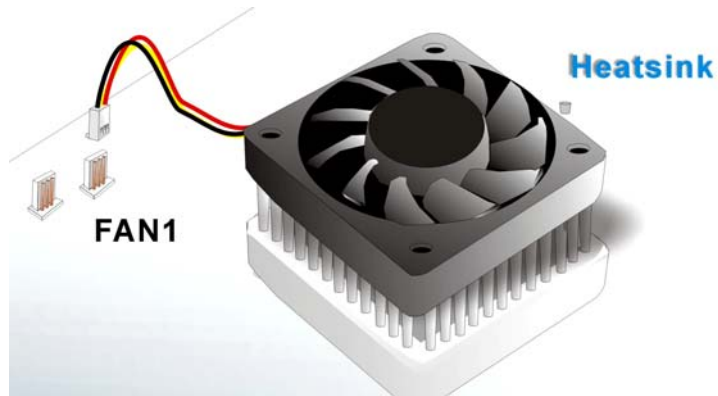

Figure 4-5: Connect the cooling fan cable
- Step 5: Connect the fan cable.** Connect the cooling kit fan cable to the fan connector on the motherboard. Carefully route the cable and avoid heat generating chips and fan blades. (See **Figure 4-5**)